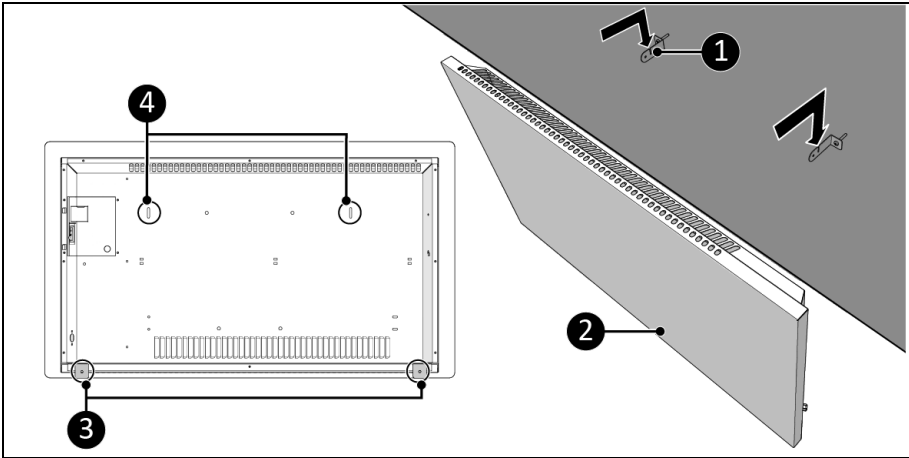

Figure 12
9. Place the bracket holes (Figure 12, pos. 4) over the wall brackets (Figure 12, pos. 1).
10. Let the device (Figure 12, pos. 2) drop into the openings of the wall brackets (Figure 12, pos. 1).
11. Use the device brackets (Figure 12, pos. 3) to mark the bottom hole position on the wall.
12. Remove the device from the wall brackets (Figure 12, pos. 1).